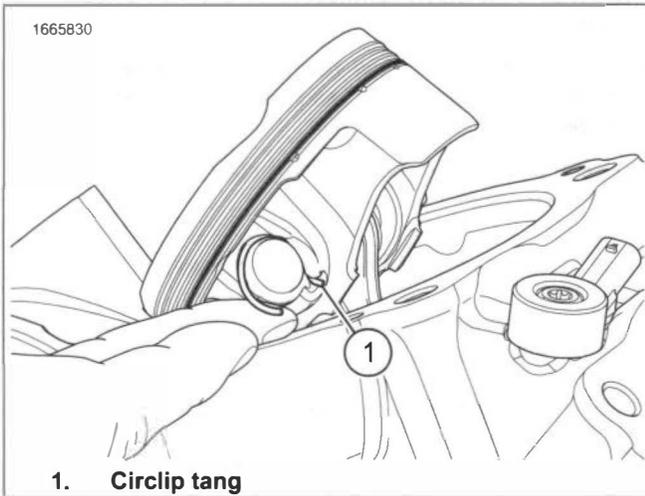

Figure 4-54. Circlip Alignment
- a. See Figure 4-54. Place circlip tang (1) facing towards front of piston and in groove as shown.